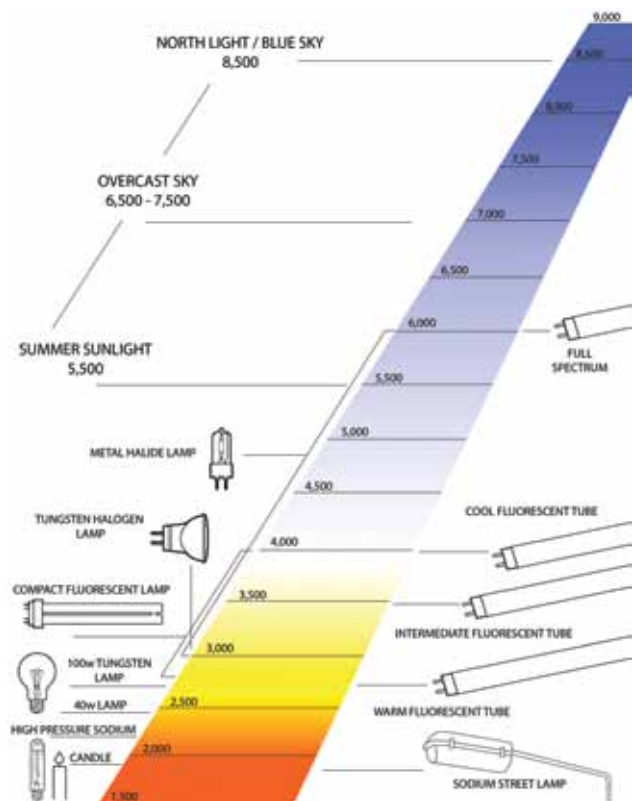

Fig.1 Colour temperature (K) of various light sources.
**Colour appearance** (Figure 1) defines the appearance of a colour 'white' and is measured on the Kelvin temperature scale (K). A colour temperature of less than 3,500 K is 'warm'; a colour temperature of 3,500 K is mid-white; and a colour temperature of 4,000 K and above is 'cooler'. The colour of 'white' which is often used in general areas is 4,000 K and for areas where people may dwell for long periods a warmer colour of 3,000 K may be more suitable.